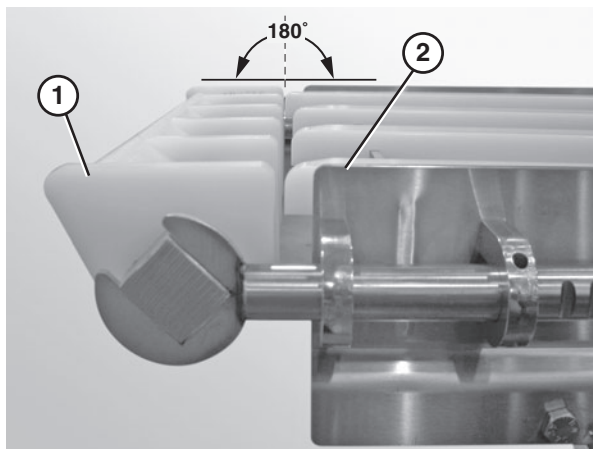

Figure 10
3. Ensure that the nose bar pucks (**Figure 10, item 1**) are in line with the conveyor frame (**Figure 10, item 2**).